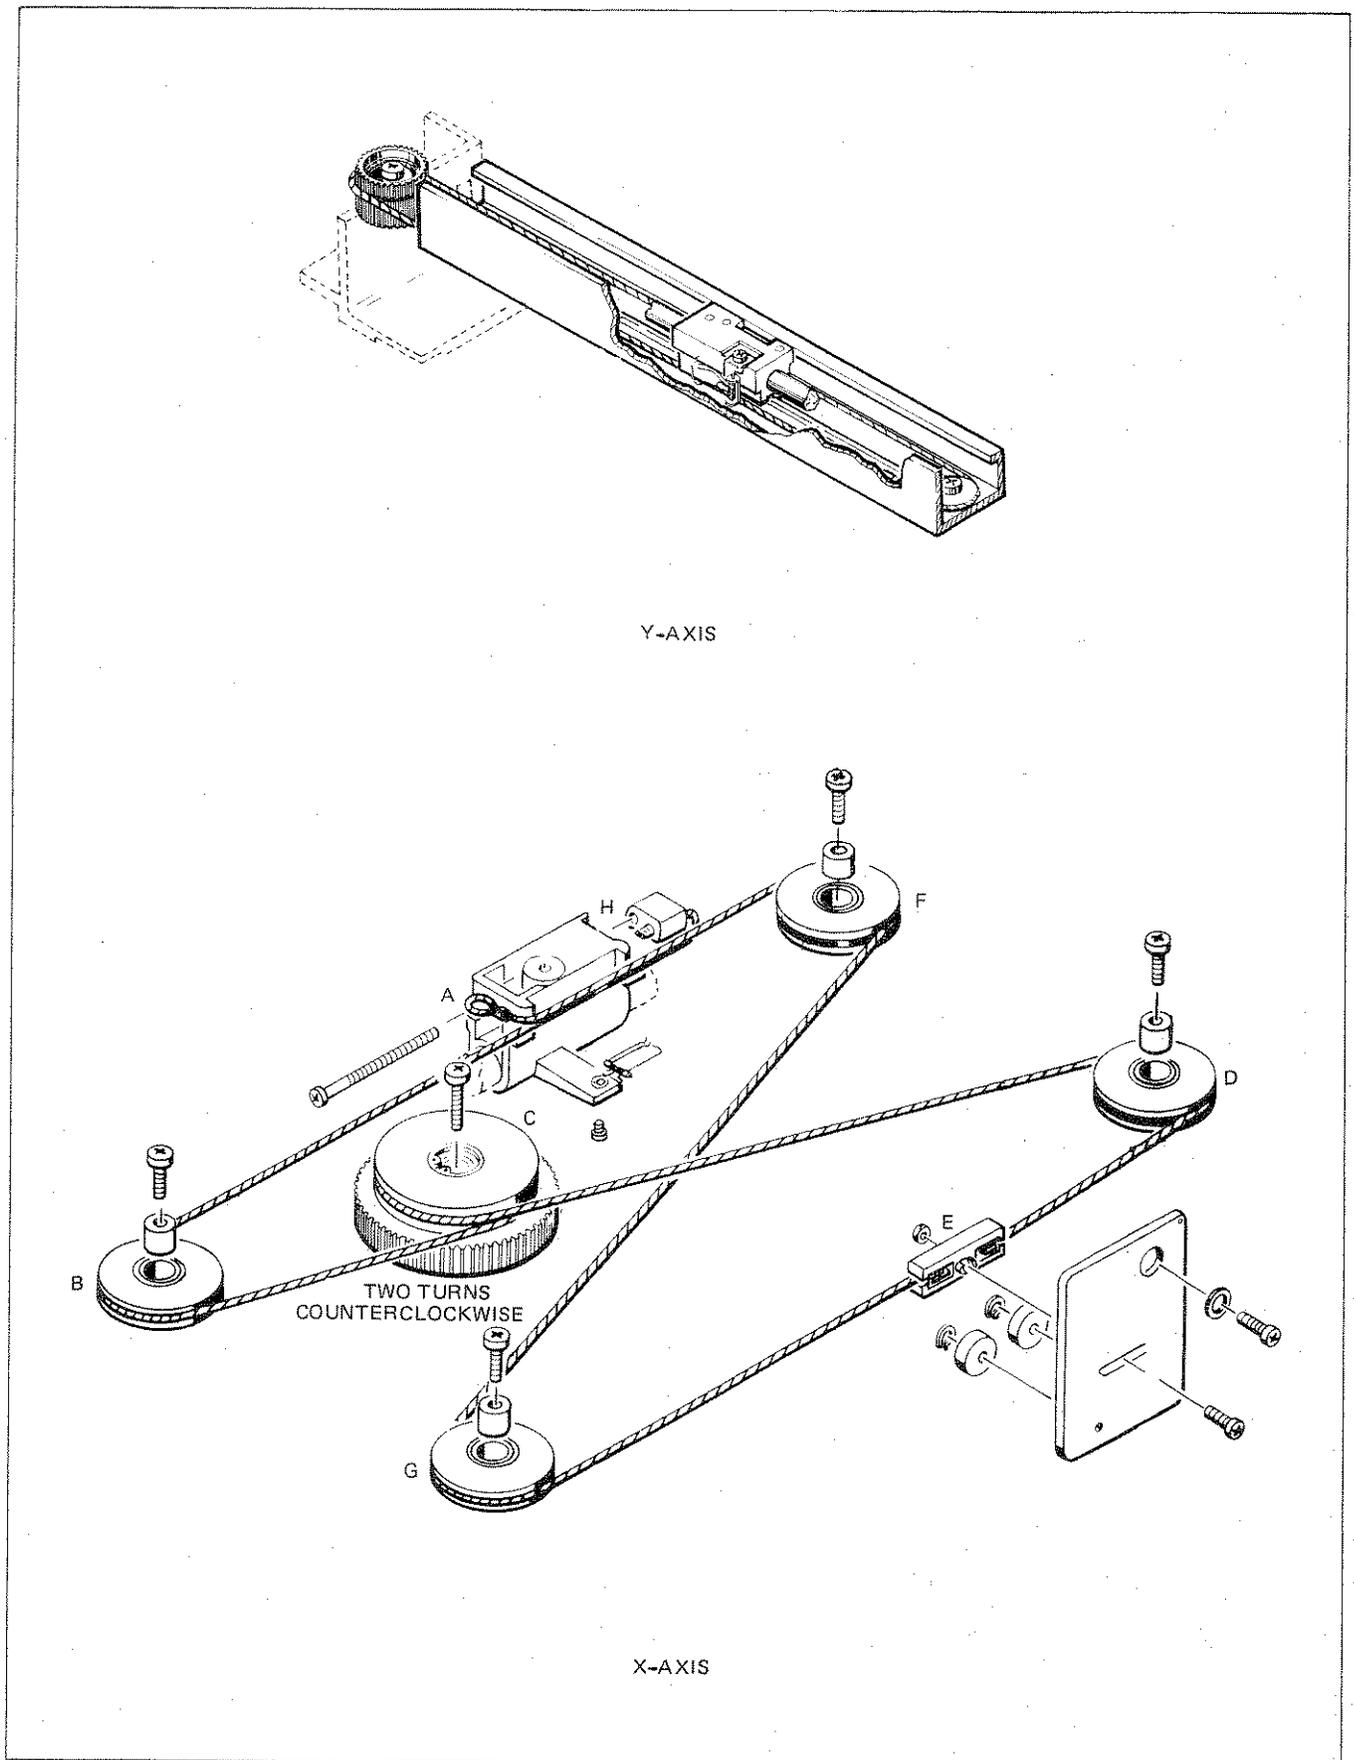

Figure 8-15. X- and Y-Axis Restringing
- c. Reassemble cable using X-axis cable assemblies, Part Numbers 1530-1754 and 1530-1755, and secure to recording arm end cap with screw. Refer to Figure 8-15. Insert long cable adjustment screw into end loop of cable assembly No. 1, 1530-1755, at point A. Route cable from slider block to pulley (point F). Route cable in a clockwise direction around pulley (point F), continuing around pulley G in a counterclockwise direction; secure cable assembly No. 1 to alignment block point E. Route cable assembly No. 2 1530-1754 (with white plastic adjustment block attached) under cable assembly No. 1 near point A. Insert into slot on slider block, point H, securing with approximately two turns of cable around adjustment screw. Route cable counterclockwise around pulley (point B). Proceed to drive gear pulley (point C) and route cable two turns counterclockwise. Continue clockwise around pulley (point D). Secure cable assembly No. 2 to alignment block point E.